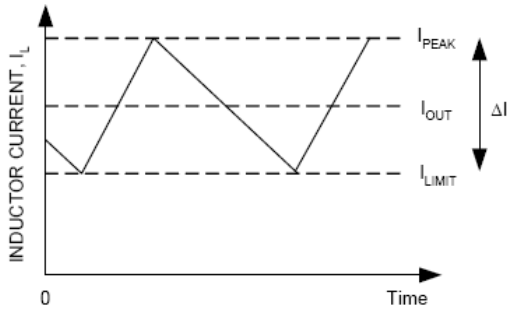

Figure 2. Current-Limit Algorithm
The current-limit circuit employs a "valley" current-sensing algorithm (See Figure 2). The TD1729 uses the low-side MOSFET's RDS(ON) of the synchronous rectifier as a current-sensing element. If the magnitude of the current-sense signal at PHASE pin is above the currentlimit threshold, the PWM is not allowed to initiate a new cycle. The actual peak current is greater than the currentlimit threshold by an amount equals to the inductor ripple current. Therefore, the exact current-limit characteristic and maximum load capability are the functions of the sense resistance, inductor value, and input voltage.